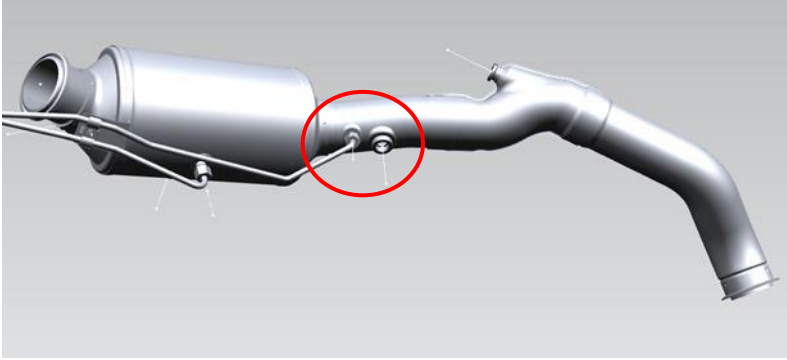

Figure 10 – A 166 490 12 02 80 for vehicles with option code 804(MY14) and with option code 054 – Note the pressure line connection location
*See Figure 10/11 (below) for picture of Combination Box for further identification